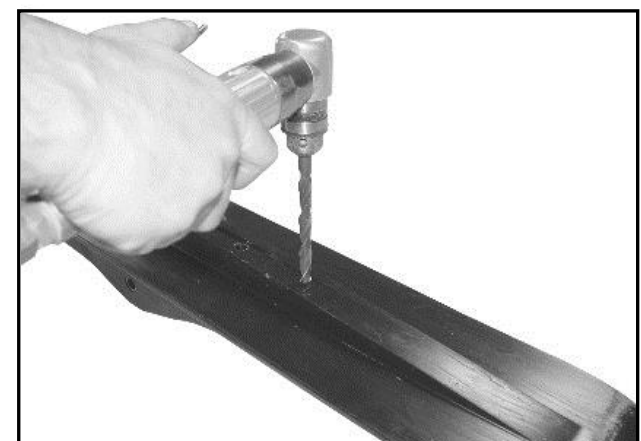

Figure 4
- 2) On the mark you have made to indicate the fourth hole placement, bore a hole through the ski using a 25/64"-drill bit. (Figure 4)